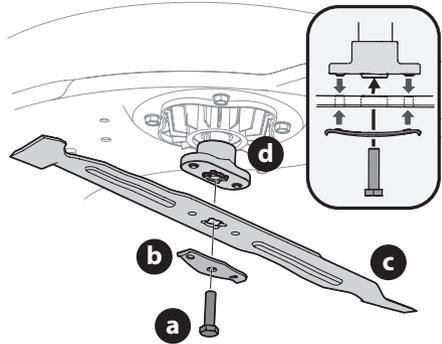

Figure 22
3. Remove the hex screw (a) and the blade bell support (b) which holds the blade (c) and the blade adapter (d) to the deck motor (Figure 22).
4. Remove blade (c) and adapter (d) from the deck motor spindle (Figure 22).